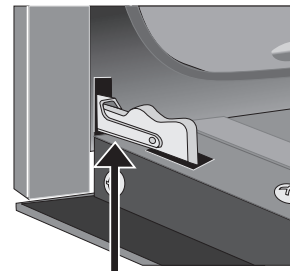
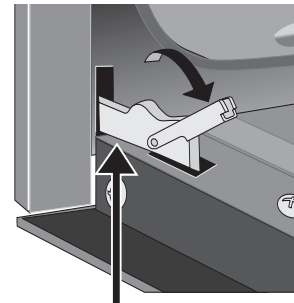

Figure 39: Door hinge locks
Figure 40: Unlocking door hinge
2. Pull up the lock located on each hinge support toward front of the oven until the lock stops. You may have to apply a little upward pressure on the lock to pull it up (Figure 39 and Figure 40).